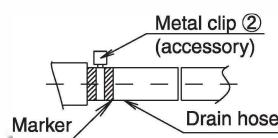

Figure 15
- Use the accessory drain hose ① and metal clip②. The drain hose ① should be inserted till the end of the drain socket and secured firmly to the marker at the front end of the hose using the metal clip②. Tighten the metal clip② till the raised distance of the screw head less than 4mm. (Refer to Figures 15 and 16)